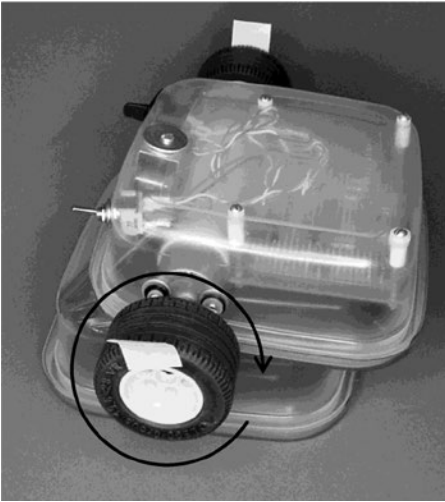

Figure 25-2. *The robot's right motor spins clockwise*
5. Place your hand under the opposite set of sensors so that the right motor spins. The right motor should spin clockwise (see Figure 25-2).